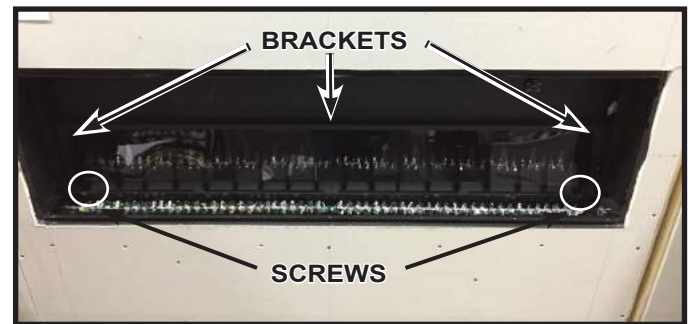

Figure 16
4. Remove the screws in the top Flame Screen retaining bracket and the side Flame Screen retaining brackets. Then remove the screws in the bottom left and right corners of the Flame Screen. Remove the Flame Screen. See figure 16.
5. Install the replacement Flame Screen panel, smooth side facing out, and re-attach brackets and screws. See figure 16.